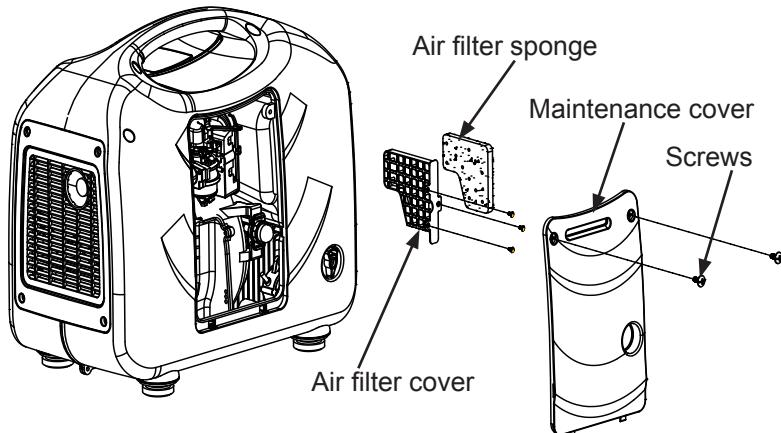

Fig. 5.0
3. Remove the air filter sponge (refer to Fig. 5.0)